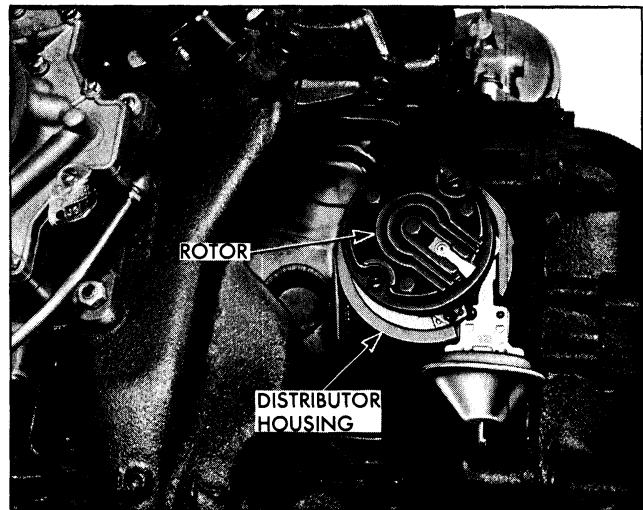

Fig. 11-50 Relationship of Distributor Housing and Rotor in Firing Position for No. 1 Cylinder
3. Crank engine so rotor is in position to fire No. 1 cylinder (Fig. 11-50) and timing mark on harmonic balancer is indexed with pointer.
camshaft. Distributor and rotor will be positioned as shown in Fig. 11-50 when properly installed with No. 1 piston in firing position.